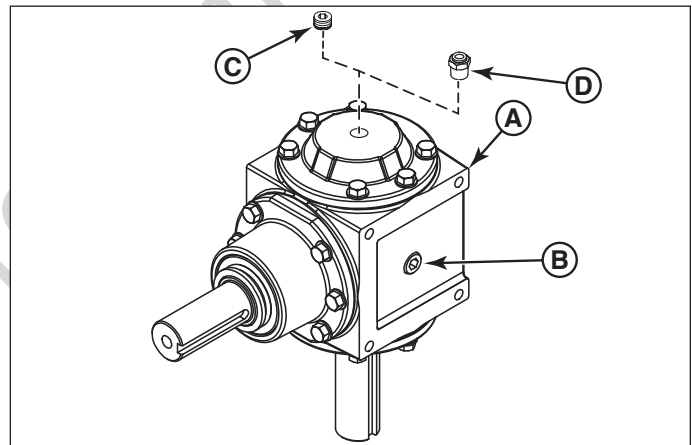

Figure 12. Installing the Gearbox Vent
1. Prior to installing the gearbox (**A**, **Figure 12**) check the gearbox oil level. Remove the gearbox's oil fill plug (**B**). Once the fill plug is removed, oil should seep out of the fill plug hole. If no oil drains out, fill the gearbox with Amsoil® SAE 75W-140 (or equivalent) gear oil until oil starts to seep from the hole and then replace the fill plug.